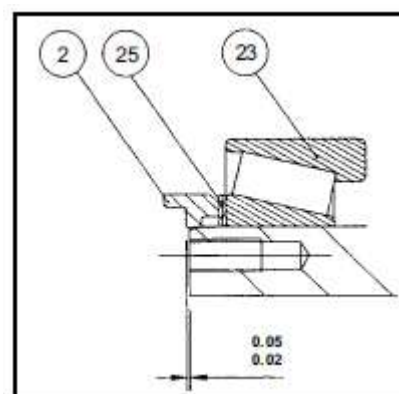

Figure 21
a) Whenever the shafts are removed from the bearing carrier, the bearing shields (4) should be removed and all grease cleaned from shafts, bearings and bearing carrier. Press out lip seals (7) from bearing carrier and lip seals (1) from retainers.
e) Fit shim pack (25) under bearing retainer and add or remove shims until retainer face protrudes 0.02 to 0.05mm (0.001" to 0.002") above unpainted areas of bearing carrier - see Figure 21.